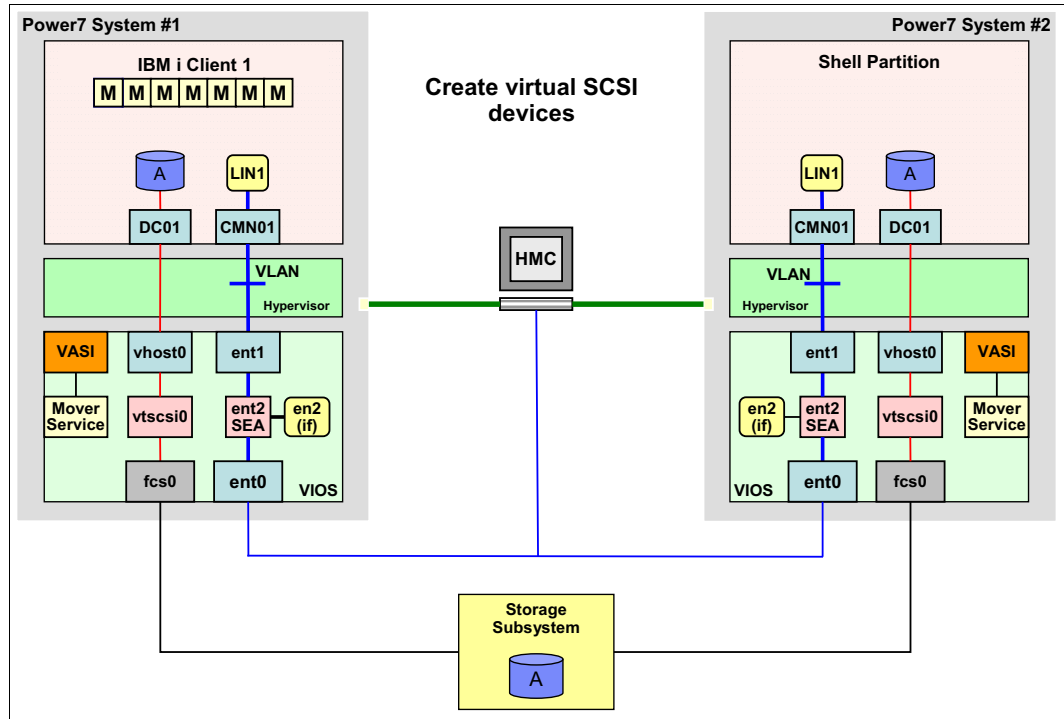

Figure 5-3 Live Partition Mobility, virtual SCSI devices created
- Virtual SCSI or NPIV devices are created in the virtual target VIOS server and in the shell partition to give the partition access to the storage subsystem that is used by System #1, as shown in Figure 5-3.